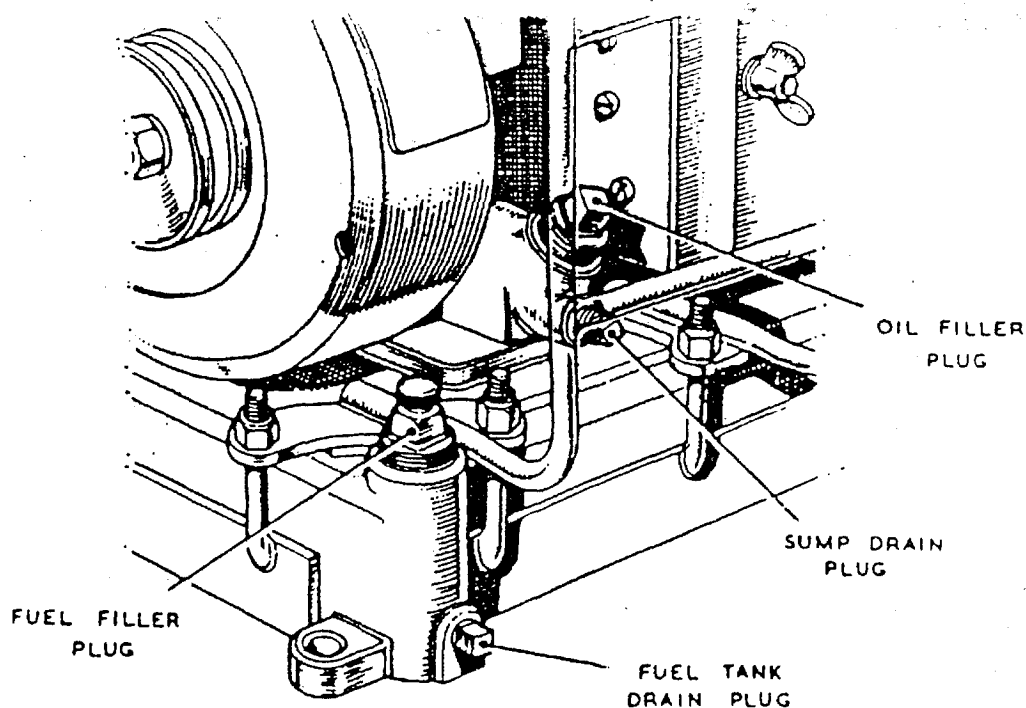

Fig. 18. Engine sump and Fuel tank drains.
3.1. To drain the engine sump. Fig.18.
3.3. To drain the fuel tank. Fig.18.